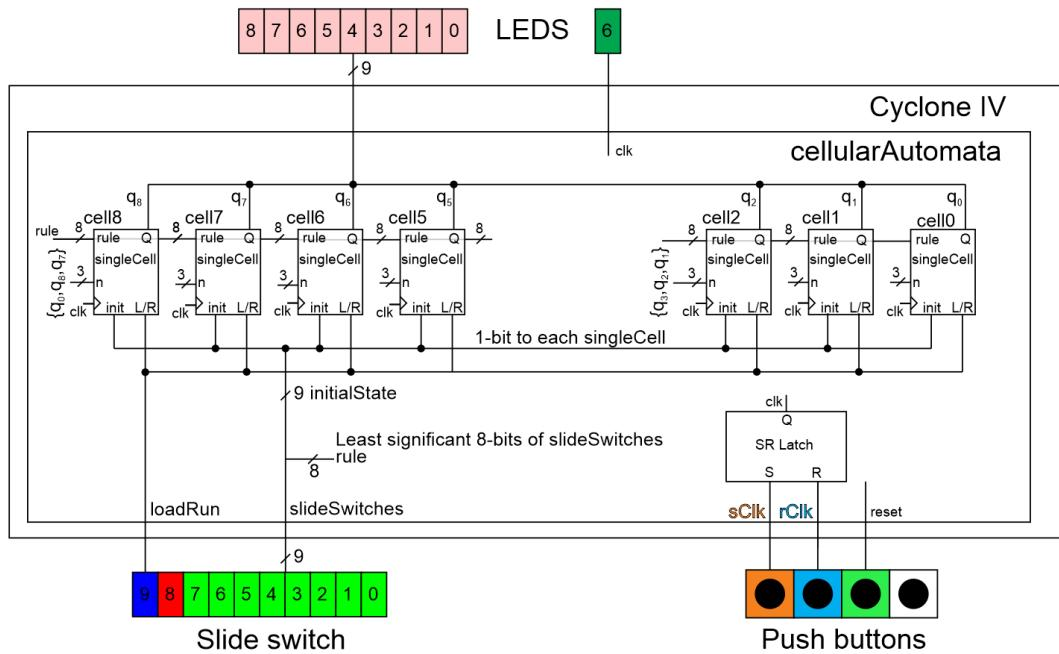
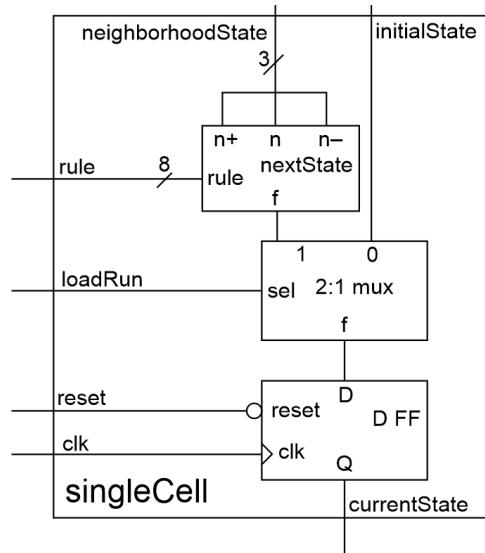

Figure 36: The system architecture of the cellularAutomata. Due to tight spacing, only the n inputs to cell8 and cell2 are shown.
Figure 37: The architecture and module interface for the singleCell module.
The system architecture shown in Figure 36 shows the overall organization of the cellular automata. Slide switches [0-7] are used as initial state when the loadRun slide switch is set to 0. When the loadRun slide switch is set to 1, slide switches [0-7] are used as the evolution rule. The clock is generated by the SR latch whose inputs are sClk and rClk. The state of the cells are displayed on the 9 red LEDs. The processing elements forming the array are called singleCell and discussed in the next section.
- Make cell 8 have cell 0 as its “left” neighbor in Figure 36
- Make cell 0 have cell 8 as its “right” neighbor in Figure 36
The significant design problem in today's lab comes in this section, building the singleCell module. The module interface for the singleCell module in Figure 36 used some shorthand for the single names due to the space constraints. The internal organization and module interface for the singleCell module is shown in Figure 37. For example, the output currentState in this figure was called Q in Figure 36. You should be able to decipher the rest of the signal abbreviations used in Figure 36.
Table 33: The input/output relationship for the nextState functionality in Figure 37.